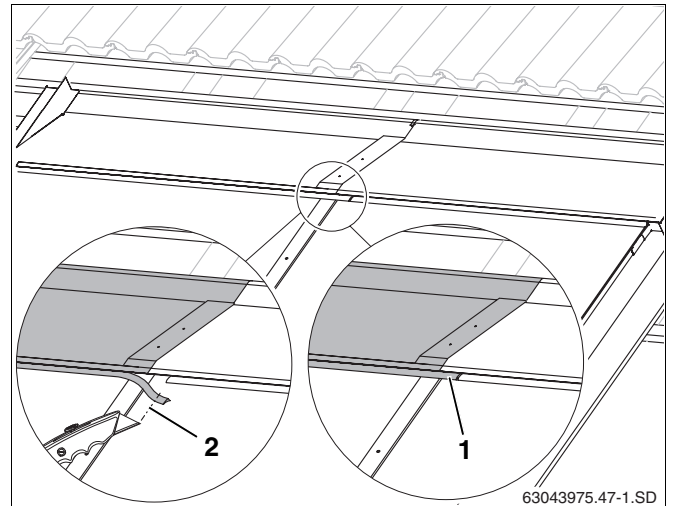

Fig. 58 Upper left facing panel
- ▶ Shorten the rubber lip (Fig. 58, **Item 2**), so that it touches the rubber lip on the right-hand facing panel.
- ▶ Place rubber lip on the left-hand facing panel onto the fold on the right-hand facing panel. (Fig. 58, **Item 1**).